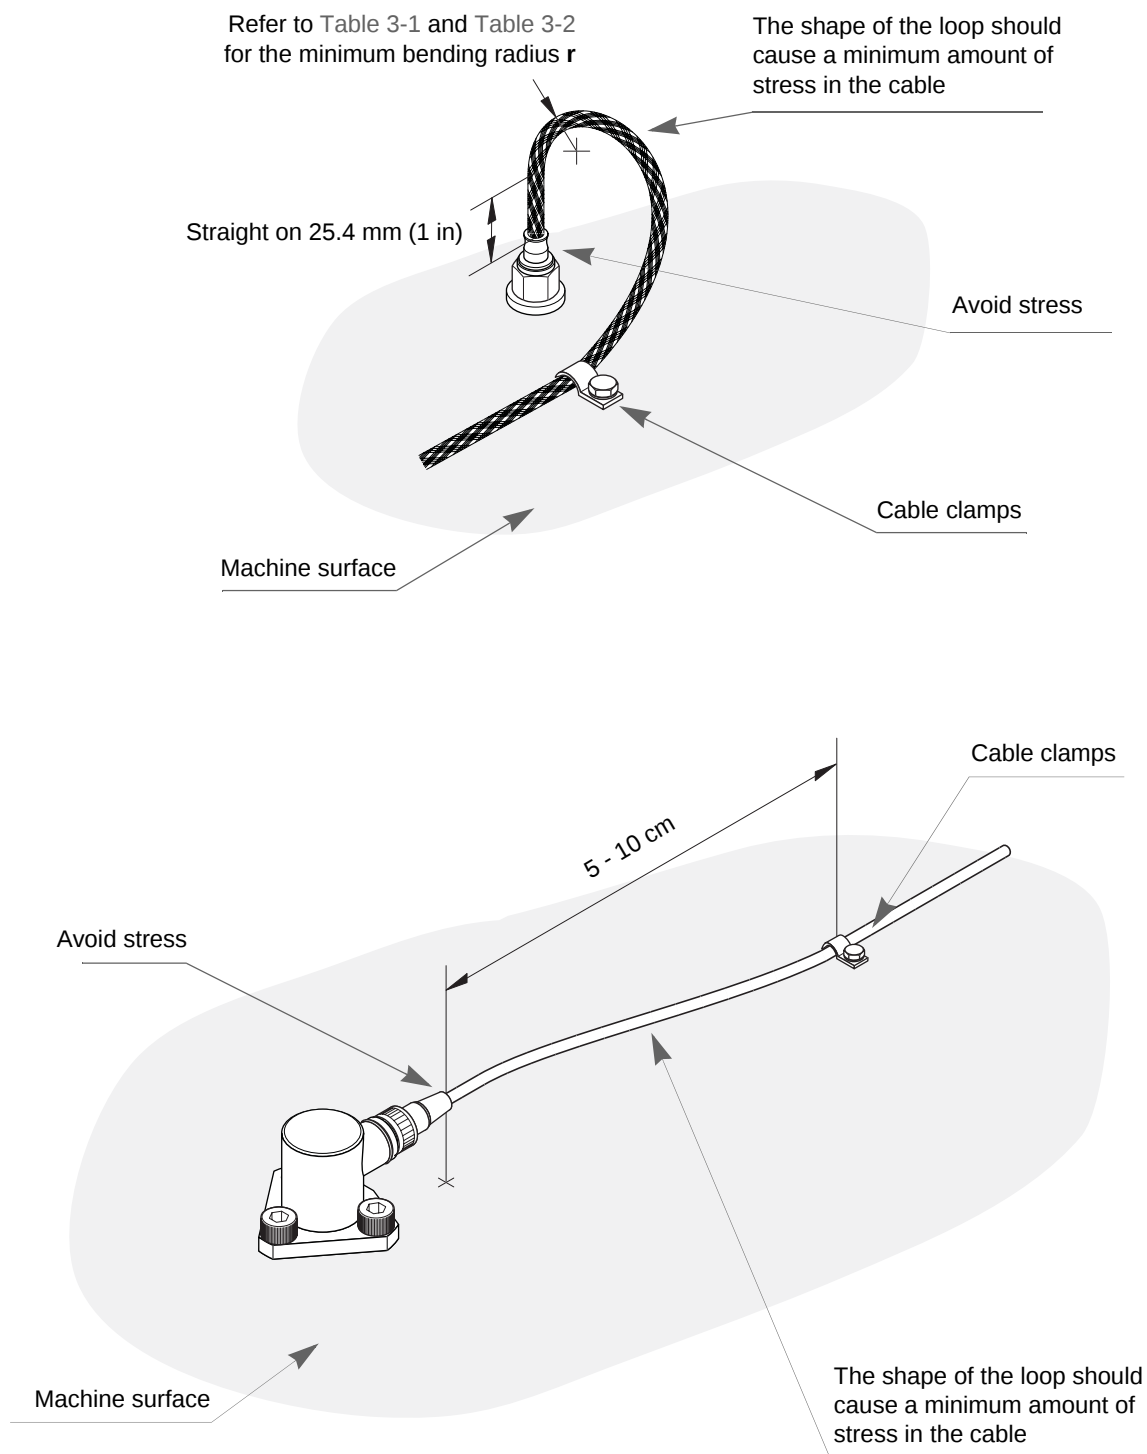

Figure 3-5 : Fixing an pressure transducer cable
- 3- Clamp the cable as described on Figure 3-5.